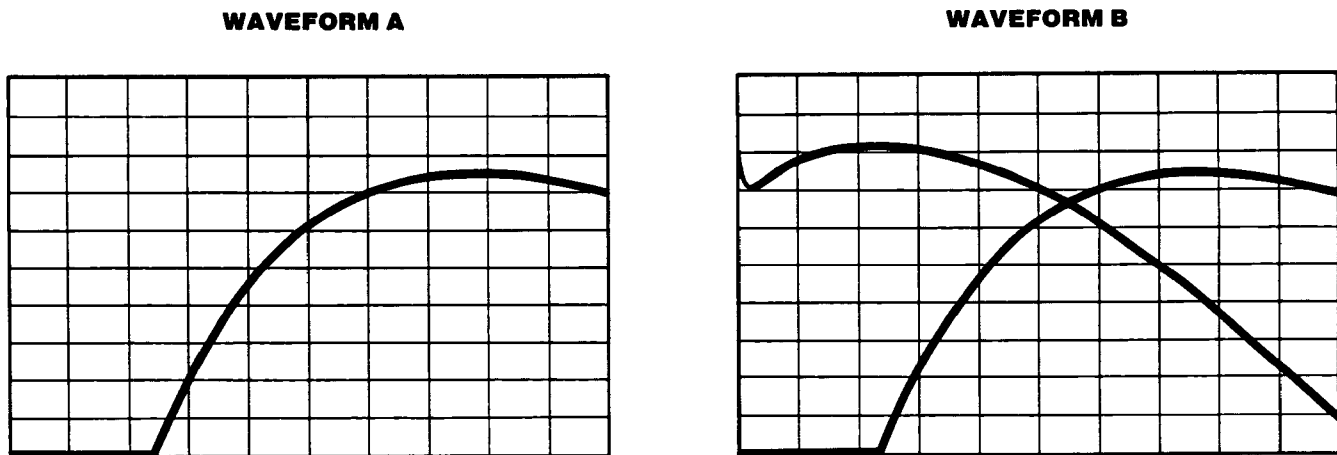

Figure 5-25. Spectrum Analyzer Waveforms of YO Loop Gain
26. A trace similar to Figure 5-25, Waveform A should be displayed on the Spectrum Analyzer.
27. On the Spectrum Analyzer, press [STORE A → B] to store the trace from A into Trace B. On the Special Test Fixture, set switch S1 to position 2. The Spectrum Analyzer should display the two traces similar to Figure 5-25, Waveform B.